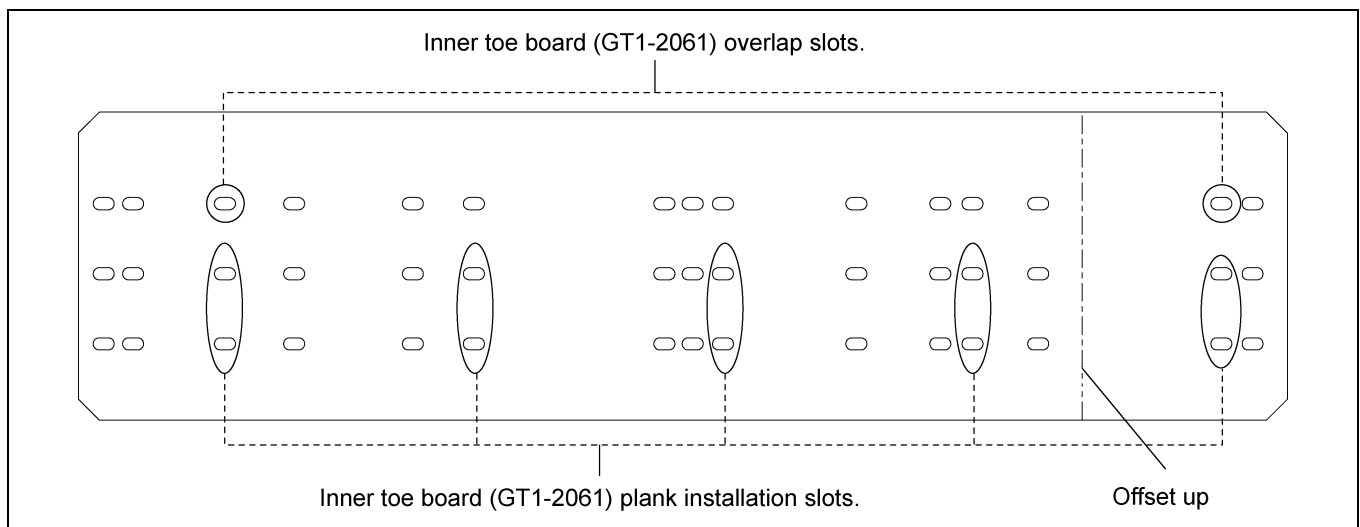

Figure 5K 24' Inner Toe Board (GT1-2061)
3. Inner toe board is arranged with overlap slots on each side and plank installation slots. Install 24' inner toe boards (GT1-2061) to corresponding overlap and plank installation slots as shown in Figure 5K